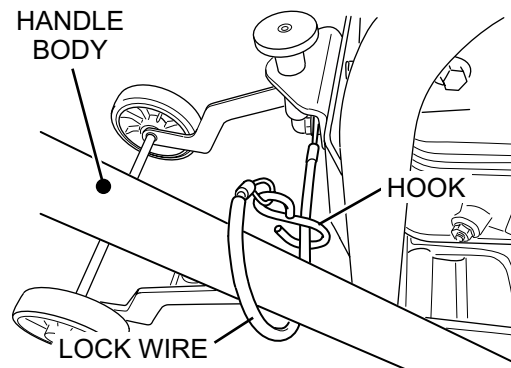

Figure 11. Lock Wire Attachment
- Place the lock wire around the handle body as shown in Figure 11.